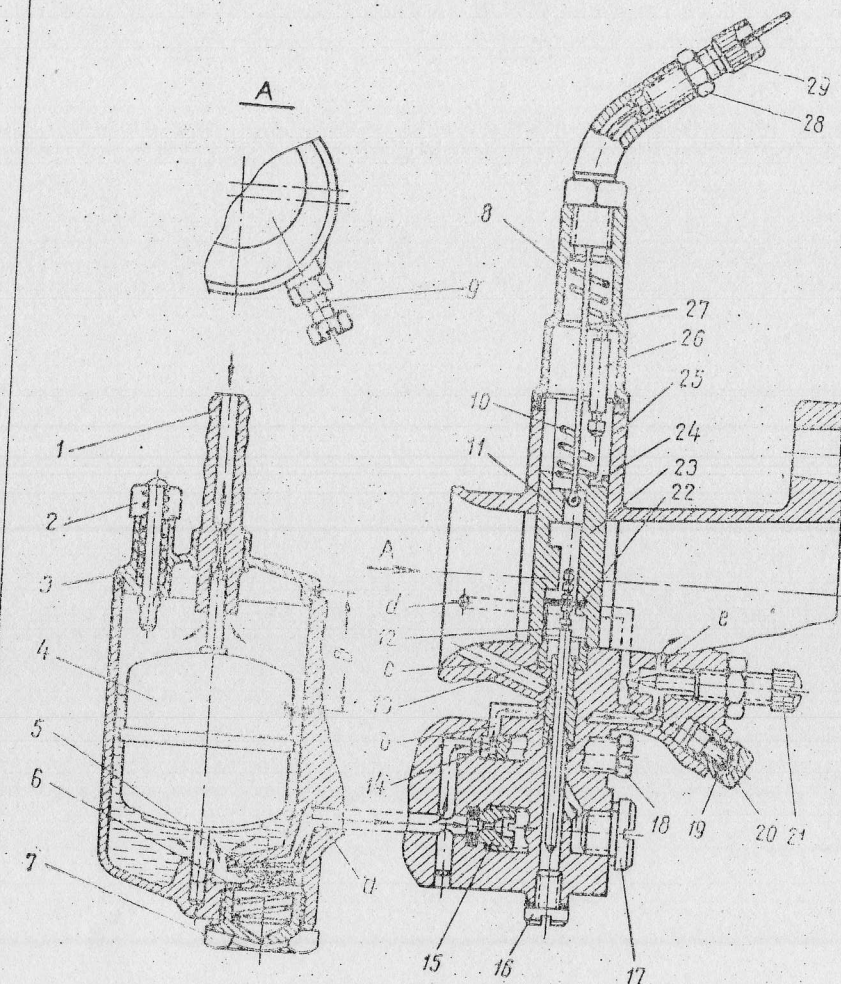

Fig. 1. K-301 Carburetor Diagram:
**Start-up of engine and idling.** Gasoline from the gasoline cock is delivered to the float chamber (Fig. 1) through pipe union 1 pressed into cover 3. From the float chamber the gasoline via fuel filter 5 flows through passage *a* and idle adjustment fuel passage *b* to the main jet atomizer, settling on the level of gasoline in the float chamber.